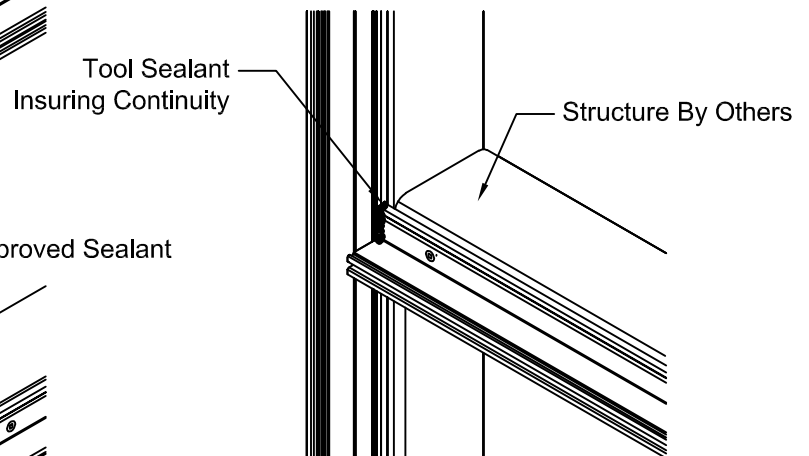

Figure 7
- 2.1.5 Install horizontals plumb and level using engineered fasteners approved in shop drawings. Place shims under vertical mullion to evenly distribute the load from wall. Tool sealant between the horizontal and vertical members. See FIGURE 7.
- 2.1.5 Install the vertical before the sealants tack time has expired and no debris can accumulated. Place shims under vertical mullion to evenly distribute the load from wall. Tool sealant between the horizontal and vertical members. See FIGURE 7.